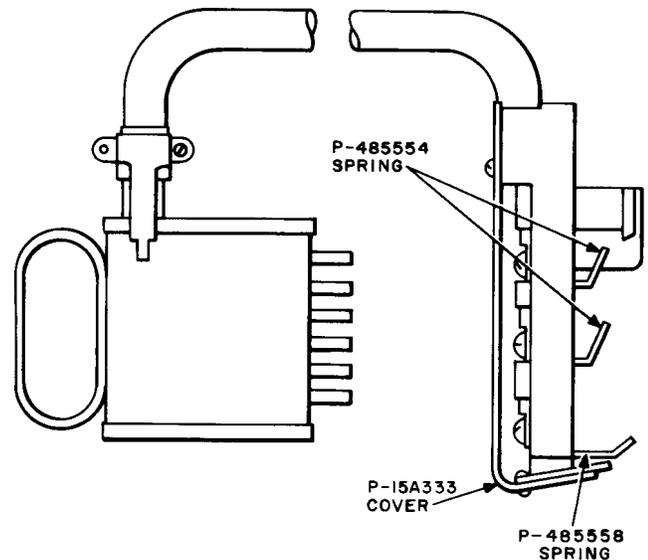

Fig. 11—615A Test Plug and Cord Tool
2.11 615A: The 615A test plug and cord tool (Fig. 11) are used in connecting six leads of a No. 12 service observing circuit to an operator's cord circuit. This tool consists of a KS-8585, L41, plug and a connector assembly connected by a W6G cord.